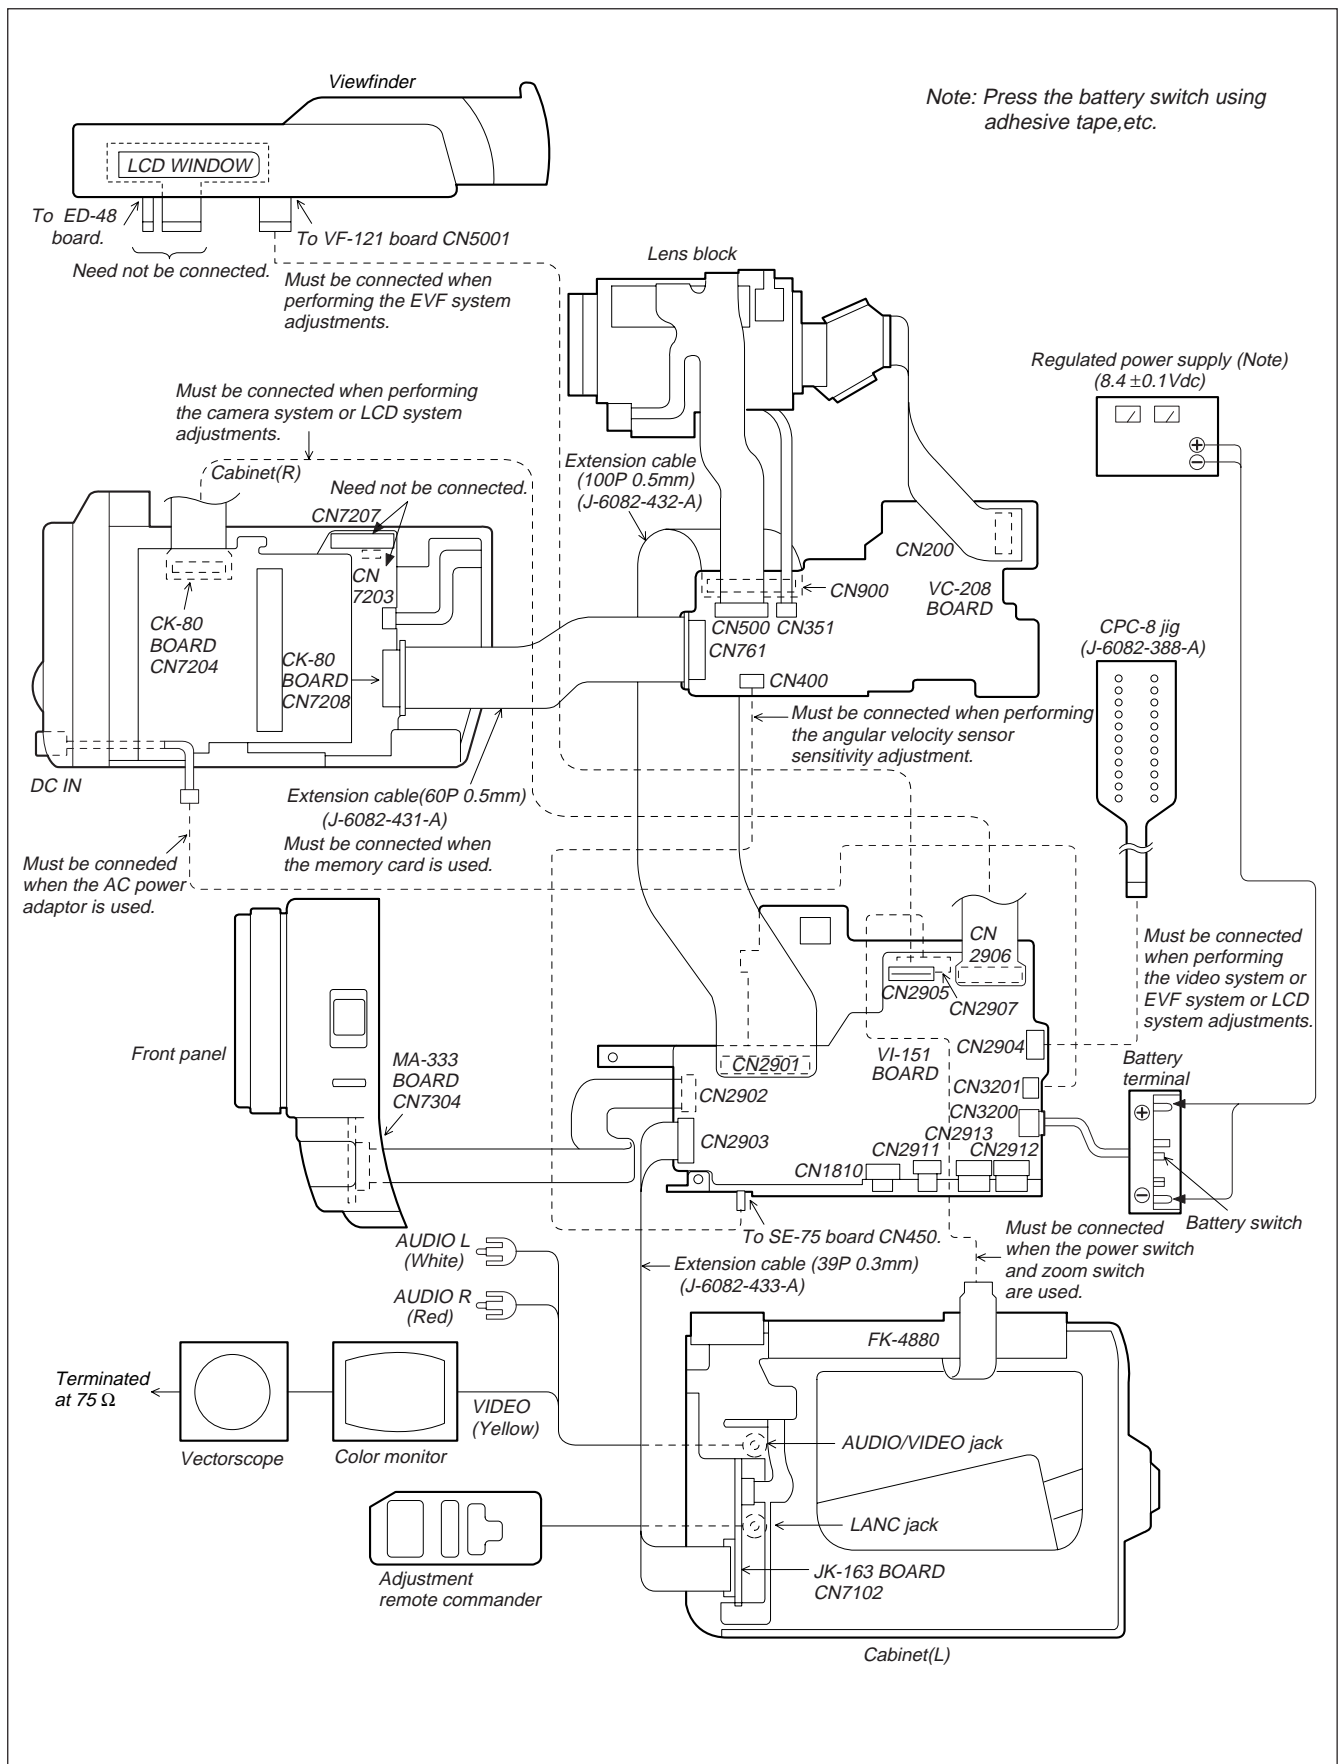

Fig. 5-1-3
- 1) Connect the equipment for adjustments according to Fig. 5-1-3.